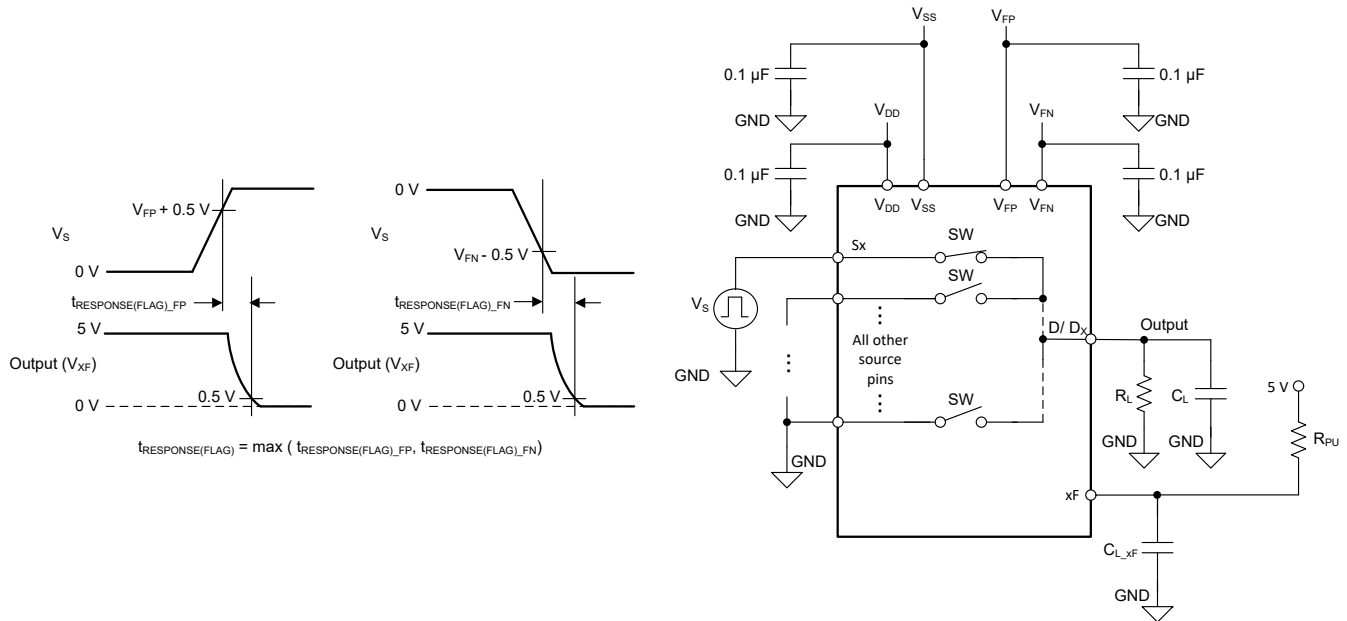

Figure 7-11. Fault Flag Response Time Measurement Setup
Fault flag response time ( $t_{\text{RESPONSE(FLAG)}}$ ) measures the delay between the source voltage exceeding the fault supply voltage ( $V_{\text{FP}}$  or  $V_{\text{FN}}$ ) by 0.5 V and the general fault flag (FF) pin or specific fault flag (SF) pin to go below 10% of its original value. Figure 7-11 shows the setup used to measure  $t_{\text{RESPONSE(FLAG)}}$ .